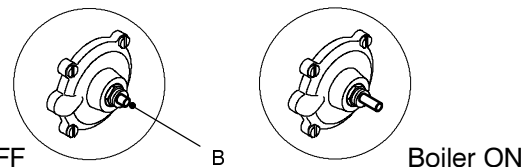

Fig. 50
- 3 Looking through the switch box verify the position of the shaft B referring to Fig. 50.